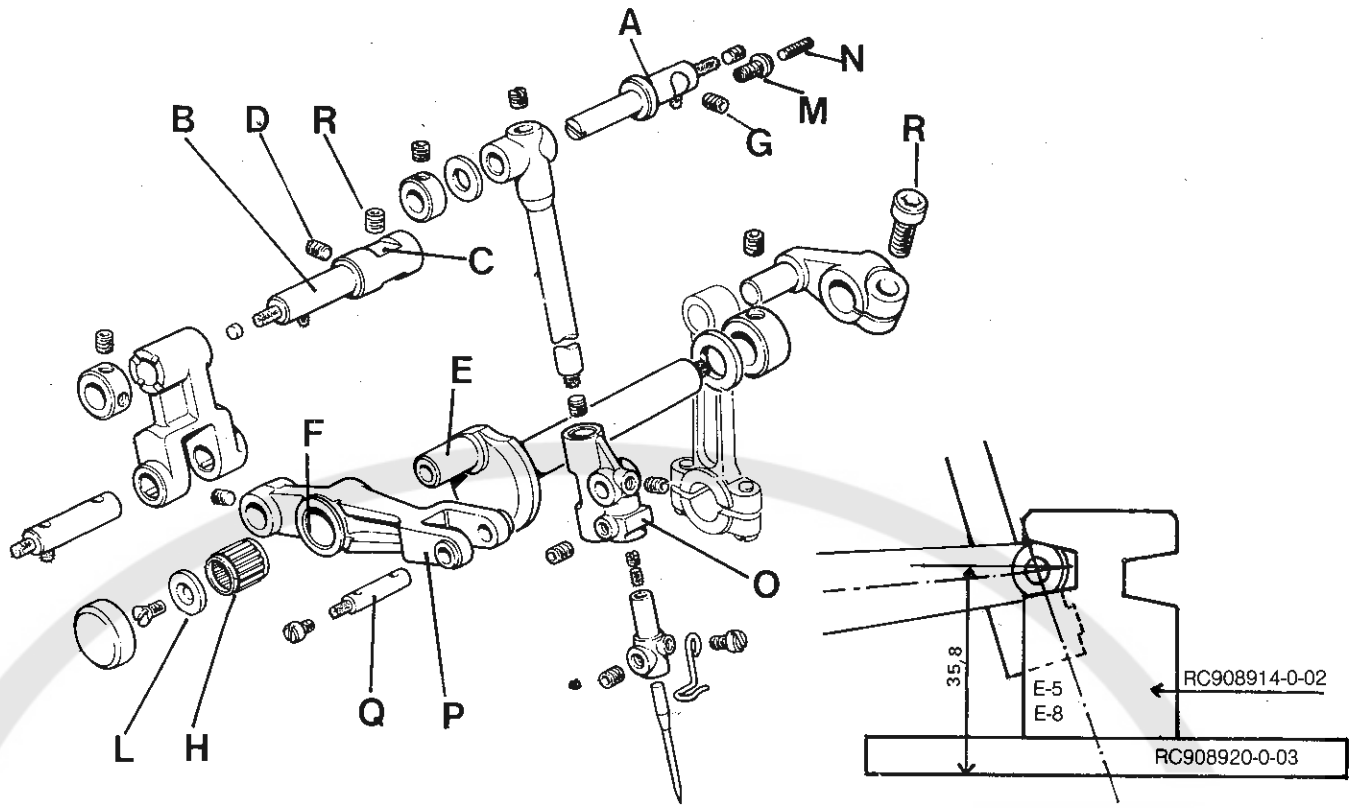
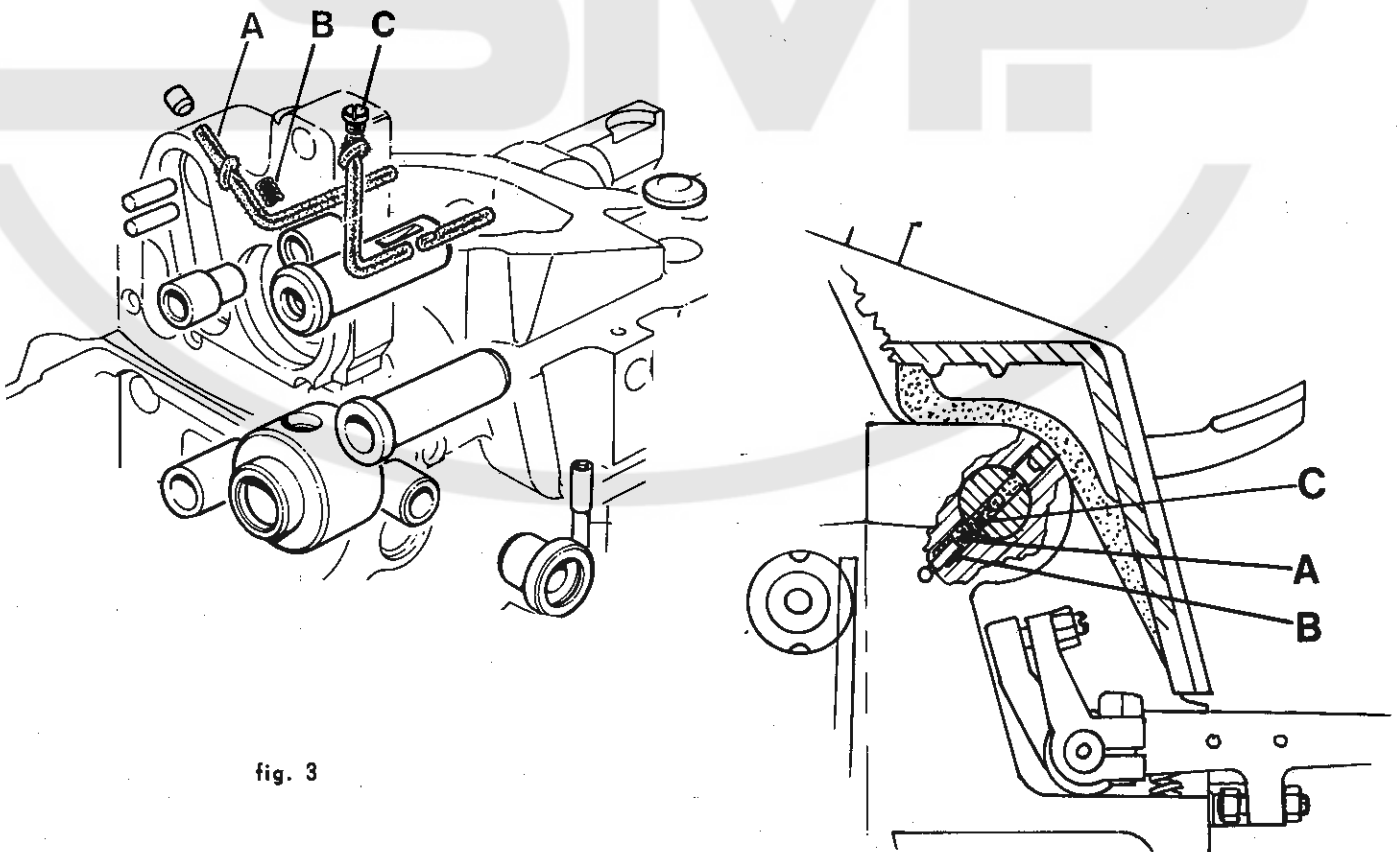
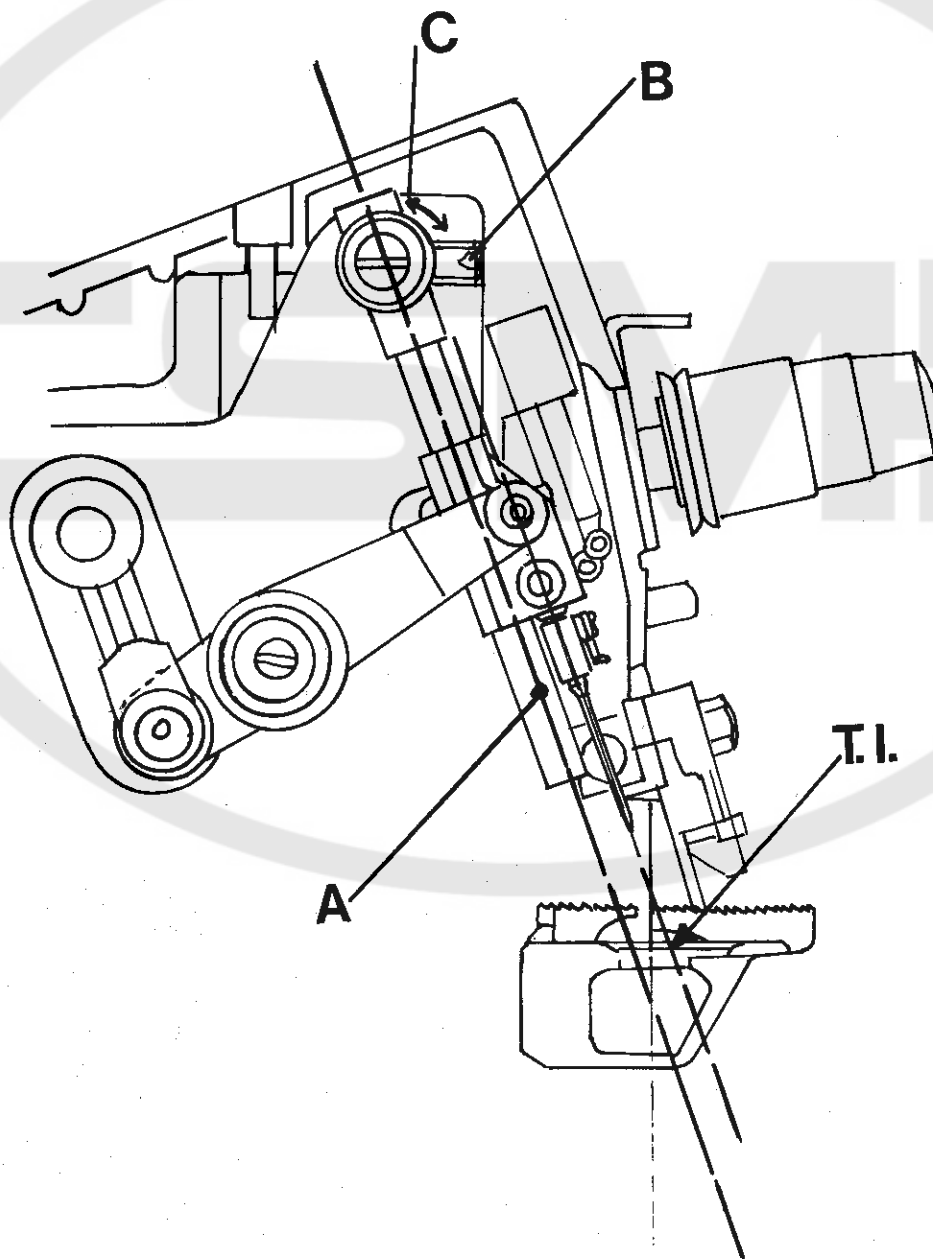

fig.2
fig. 3
fig.4
INSTRUCTIONS FOR SETTING ON AND ADJUSTING THE NEEDLE CONTROL MECHANISM (fig. 2)
- Arrange the needle control mechanism assembly (fig. 2) with pins A and B positioned as follows:
- a) bar support eccentric pin A with milled part turned towards the front of the machine. This positioning serves to orient the eccentricity of the pin towards the top and will permit subsequent insertion of screw C (fig. 3) which, keeping the orientation correct, will limit rotation of the pin to a useful bar-positioning sector.
- b) calibrator support pin B with plane C corresponding to screw D (fig. 2).
- Set pins A and B in their respective holes on the machine head, taking care to insert the button of hand control E (fig. 2) at the same time in the hole in lever F. When inserting calibrator pin B (fig. 2), lubricator wick A (fig. 3) must be pulled from the end inside the machine so that the other end is embedded in the spot-facing, pressing spring B (fig. 3) and thus permitting said pin to pass. Releasing wick A (fig. 3) spring B (fig. 3) extends, giving reliable lubrication contact between wicks A and C inside the pin.
- Center locking screws R - G (fig. 2) of the two pins and insert roller retainer H, taking care to choose the correct tolerance value, which should be that indicated on washer L (fig. 2).
- Tighten screw M (fig. 2) until it is right down on needle bar eccentric support pin A (fig. 2)
- Set the needle clamp slider to the correct height. When the slider is brought to its lowest position there must be a distance of 35.8 mm. (1.13/32") between the axis of pin Q (fig. 2) and the surface of plate RC908920-0-03 (fig. 2-inset). Adjustment is made by turning screw R (fig. 2).
Gauge RC908914-0-02 and plate RC908920-0-03 are used as shown in fig. 2 - inset, are a help in obtaining easy and accurate adjustment.
- Center the needle in the needle plate hole. The operation is made accurate and easy by screw M (fig. 2) which, being right up against the pin, offers the possibility of moving it just by screwing.
- Block screw M by fully tightening grub screw N (fig. 2)
- Center the needle clamp slider O (fig. 2) in the fork of lever P (fig. 2), dividing play equally, by moving pin B (fig. 2).
- Tighten locking screws D - R (fig. 2).
NEEDLE BAR ALIGNMENT (Fig. 4)
For aligning needle bar A (fig.4) to the needle movement trajectory T.I. (fig.4) special gauge (RC908920-0-03/RC979550-1-00) with dial comparator A (fig.5) is used, point B (fig.5) of which is positioned on the special extension C (fig.5) screwed to the bottom of the needle bar (see illustration). When the needle clamp slider moves from the bottom dead center point to the top dead center point or viceversa, there should be the least possible
Adjusting and checking is done by turning eccentric pin C (fig.4) in one direction or the other. After making sure that C is right up against screw M (fig.2), lock the pin with its screw B (fig.4).
This offers the possibility of orienting the rear needle guard so that the needles are correctly positioned in relation to the two internal planes. (see Fig. 2) Tighten the locking screw, taking care not to alter the height setting.